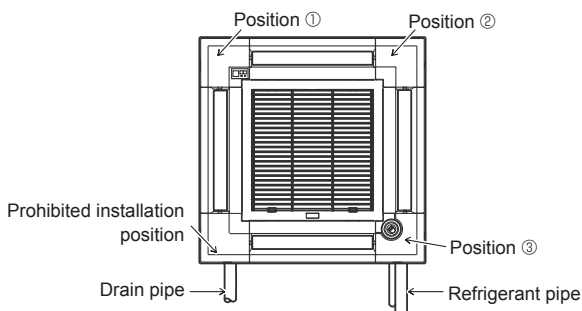

Fig. 9-11
The signal receiver corner panel can not be installed on the drain pipe side for the main unit. (Refer to Fig. 9-11)
- The i-see Sensor corner panel should be fixed onto the grille (1) with screw (3).
- * If the position of the i-see Sensor was changed from default position (position 3) to the other position, change the function settings. (Refer to page 12 and Fig. 9-11)
- The i-see Sensor corner panel can not be installed on the drain pipe side for the main unit. (Refer to Fig. 9-11)